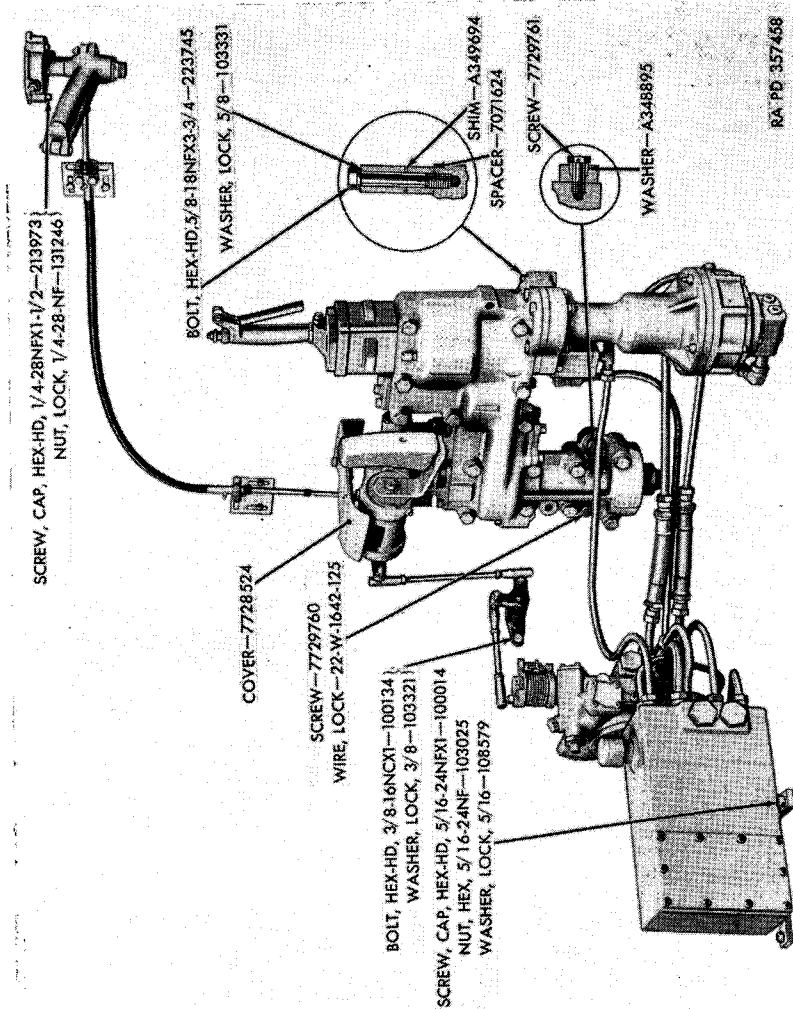

Figure 30. Installation details of hydraulic turret traversing mechanism.
b. REMOVE CONTROL LINKS, LEVER ASSEMBLY, AND BRACKET (figs. 30 and 106). Remove nuts connecting assemblies to lever assembly. Remove nut connecting link assembly to hydraulic pump control lever. Remove bolt, lever assembly, spacer, flat washer, and